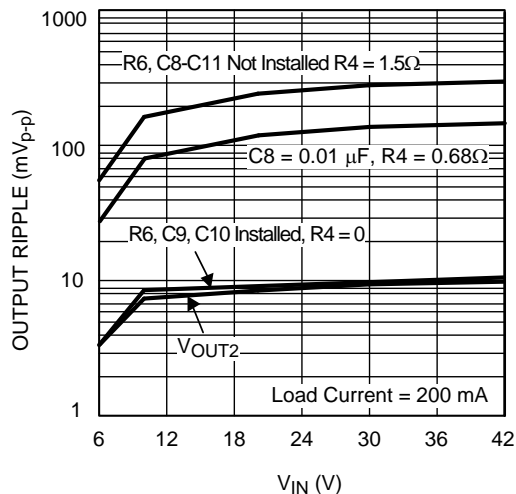

Figure 6. Voltage Ripple at V_{OUT1} , V_{OUT2}
The LM25010 requires a minimum of 25 mVp-p ripple at the FB pin, in phase with the switching waveform at the SW pin, for proper operation. In the basic application circuit shown in the data sheet, C8 is not included. The required ripple at FB is derived from the ripple at V_{OUT1} , which is generated by the inductor's ripple current passing through R4 and the ESR of capacitor C7. Since the ripple voltage at V_{OUT1} is attenuated by the R2/R3 feedback divider, a minimum of 50 mVp-p is required at V_{OUT1} . If this ripple level is acceptable for the intended application, C8 can be removed from this evaluation board, and R4 increased to 1.5 Ω . In that case, the minimum ripple amplitude (≈ 55 mVp-p) occurs at minimum V_{in} (6 V), and increases to ≈ 300 mVp-p at $V_{in} = 42$ V, as shown in Figure 6.
A) Ripple Reduction Option A: This EVB is supplied with C8 installed, and $R4 = 0.68\Omega$, providing a relatively low ripple output at V_{OUT1} since C8 couples the output ripple directly to FB without attenuation. The ripple amplitude at V_{OUT1} ranges from 30mVp-p to 150 mVp-p (see Figure 6) as V_{IN} is varied over its range. The minimum value for C8 is calculated from:
The resulting ripple at V_{OUT1} ranges from 3 mVp-p at $V_{IN} = 6 V$, to 11 mVp-p at $V_{IN} = 42 V$, and varies slightly with load current (see Figure 6). These values are valid only for continuous conduction mode (load current is between 120 mA and 1.3A). If the load current is reduced below 120 mA such that the circuit operates in discontinuous conduction mode the V_{OUT1} ripple ranges from ≈ 40 mVp-p to ≈ 120 mVp-p. If the circuit is operated in current limit mode the ripple ranges from ≈ 100 mVp-p to ≈ 300 mVp-p.
B) Ripple Reduction Option C: Connect the load to V_{OUT2} (leave R4 in). The ripple at this output varies from ≈ 3 mVp-p to ≈ 10 mVp-p over the input voltage range (see Figure 6). However, the load regulation is not as good at V_{OUT2} as at V_{OUT1} due to the presence of R4. This alternative may be preferred for applications where the load current is relatively constant.